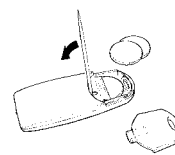

Fig. 16
- 2 Insert a small pointed tool in the slit as shown in figure 16 and prise the batteries out.